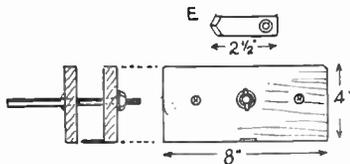
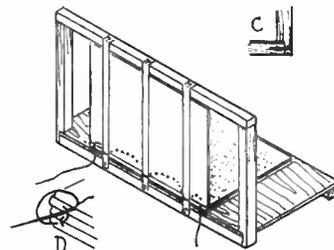

Fig. 3
Fig. 2
At Fig. 2 is shown the sewing frame, with a section, ready for sewing, in position. Make this about 15 ins. long and 8 ins. wide from plywood, to which thickening strips are glued underneath at back and front. The posts can be  $\frac{3}{4}$  in square and 7 ins. high; they are jointed to the baseboard as at (C) and a strip of wood is nailed across the top. Quite a simple affair. At Fig. 3 is given a design for a simple form of bookbinder's plough for trimming the edges of the volume. The sides of this are cut from  $\frac{1}{4}$  in. hardwood. Fasten both together and drill
The whole should then be placed in the press, with a pressing board either side, and a thick pencil line drawn across the back of the books at  $\frac{3}{8}$  in. from each end. Remove, and place against the sewing frame. The books should be sewn on tapes, so three  $\frac{1}{4}$  in. wide tapes are fixed between frame bottom and top strip, as at Fig. 2. Arrange these to suit the size
All wiring is shown in Figs 2 and 3, and no difficulty should arise here. Lengths